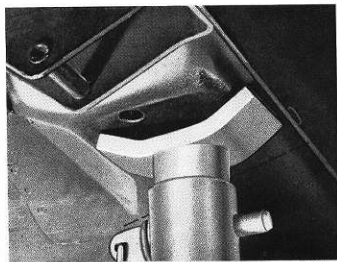

Fig. 7-4. Rear axle prop location
1. Remove the hub cap and loosen the wheel nuts a couple of turns. Jack up the vehicle. Place axle props in front of the rear jack attachments according to Fig. 7-4. Remove the wheel.
1. Remove the hub cap. Slacken the wheel nuts a couple of turns. Jack up the rear end of the vehicle at the jack attachments. Place props in front of the jack attachments according to Fig. 7-4. Remove the wheel. Unscrew and remove the shock absorber.
1. Raise the vehicle by propping up in front of the rear jack attachments according to Fig. 7-4. Do not remove the jack.
1. Raise the rear end of the vehicle by placing props in front of the rear shock absorber attachments according to Fig. 7-4.